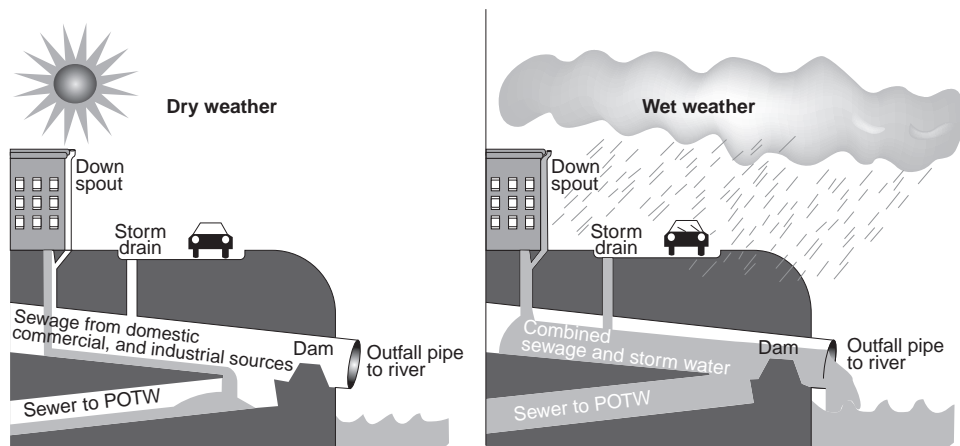

Figure 9.6
- A *combined sewer* carries both sanitary wastewater and storm water runoff. Its contents should go to a wastewater treatment plant. However, if a heavy storm exceeds the capacity of the system, it overflows. Then, the combined *sewer overflow (CSO)* containing both untreated sewage and contaminated storm water discharges into nearby water bodies untreated.³³ See Figure 9.6. Combined sewers date from the late nineteenth and early twentieth century, and remain in use in many hundreds of eastern and mid-western US cities.